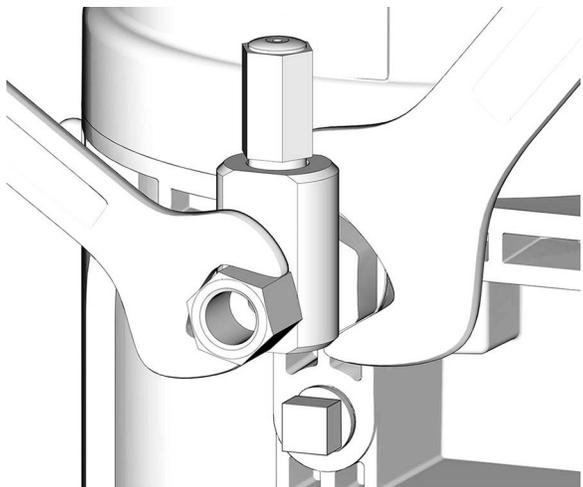

FIG. 17
- Always use two wrenches working in opposite directions when connecting anything to pump element or auxiliary fittings. See FIG. 17 for an example.